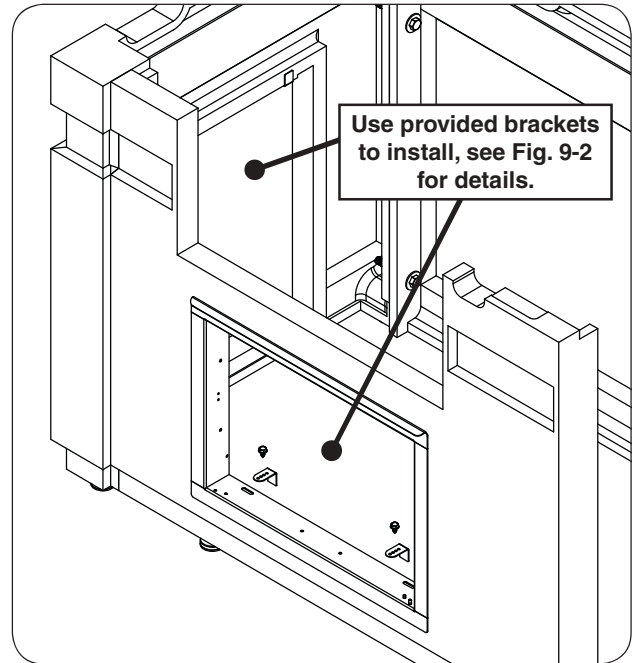
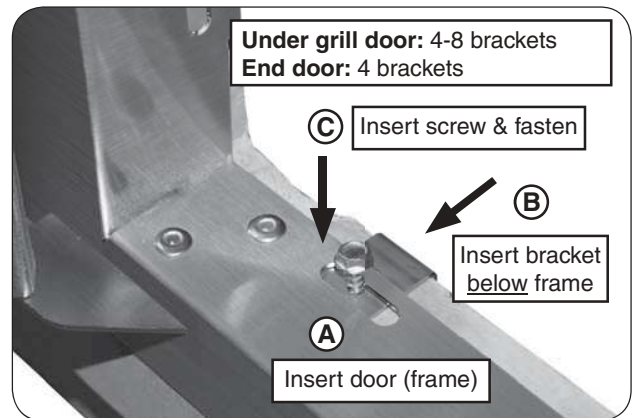

Fig. 9-1 Door / drawer install locations
Fig. 9-2 Door / drawer install detail
The drawers/doors for your island are purchased separately. Review the instructions provided with your accessories. See Fig. 9-1 for install locations.
1. Insert your door/drawer **completely** into the appropriate opening. Ensure it is flush against the exterior wall (see Fig. 9-1 and Fig. 9-2, A).
2. The door will have 2-4 oblong cutouts (or round holes) on both the top and bottom of its frame. Insert a bracket where a cutout exists, **below the frame**. See Fig. 9-2, B.
3. While squeezing the rear of the bracket and the front of the door frame **firmly** against the concrete wall, insert a hex screw and tighten with the power drill and 5/16" hex driver (see Fig. 9-2, C). **DO NOT OVERTIGHTEN**